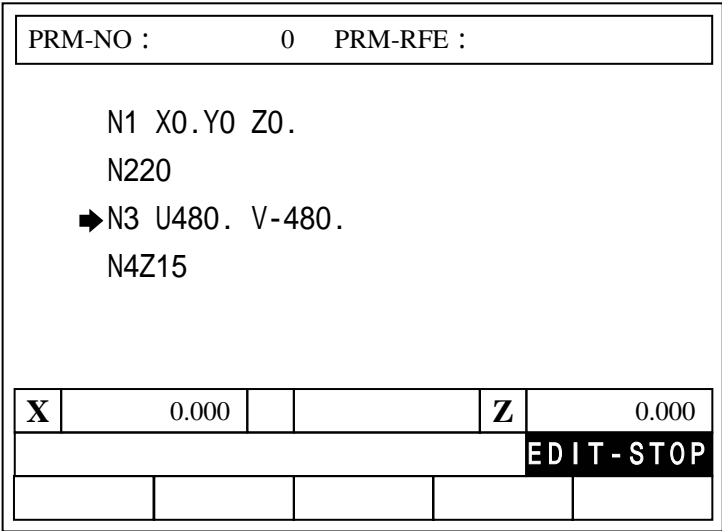

Fig.2-24
- 3. Key "F" without numbers and press INPUT key, LCD displays as Fig 2-24.